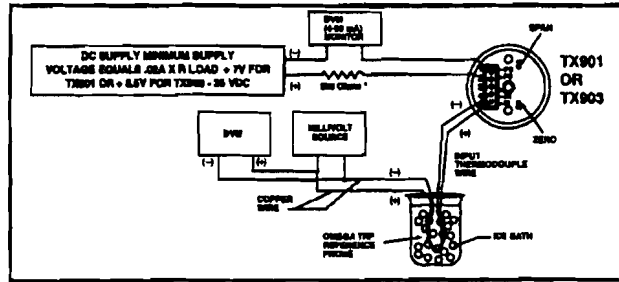

Figure 4-1 Calibration Set-Up
4.3 Calibration Procedures (Refer to Figure 4-1)
Connect the calibration equipment according to Figure 4-1 or 4-2. The thermocouple wire (J, K, T, E, R or S) must be of the same type as required for the transmitter being calibrated. Make sure that the wiring polarities are correct. (Note that the RED thermocouple wire is NEGATIVE.)